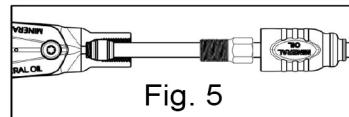

Fig. 5
⑤ Insert hose into brake lever (Fig. 5)